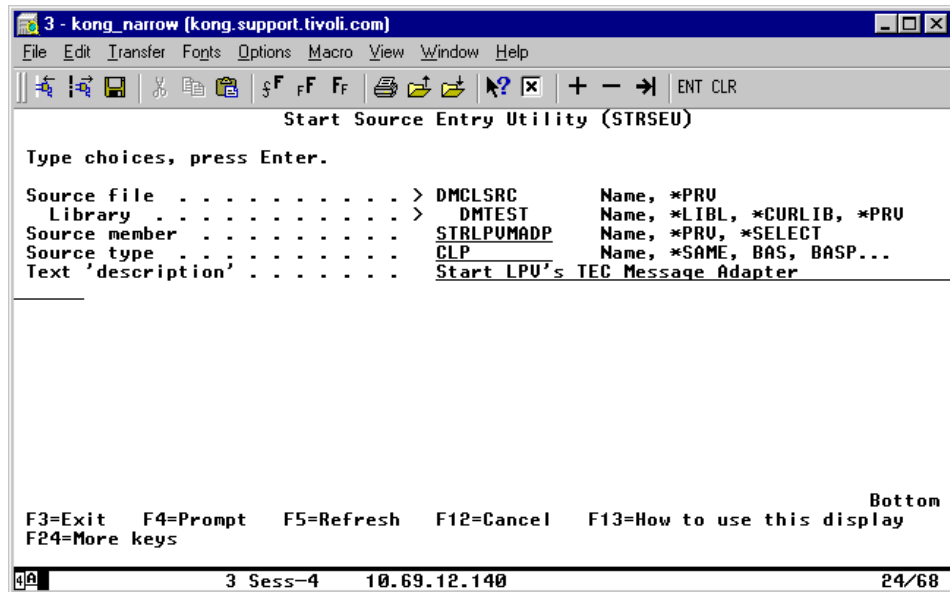

Figure 123. Start source entry utility
3. On this screen, Press **F6** (Create) to create a member in this file. This will bring up the Start Source Entry Utility command, *STRSEUW*, and, here, we name the source file member, provide the source file type, and type a description as shown in Figure 123 on page 246.